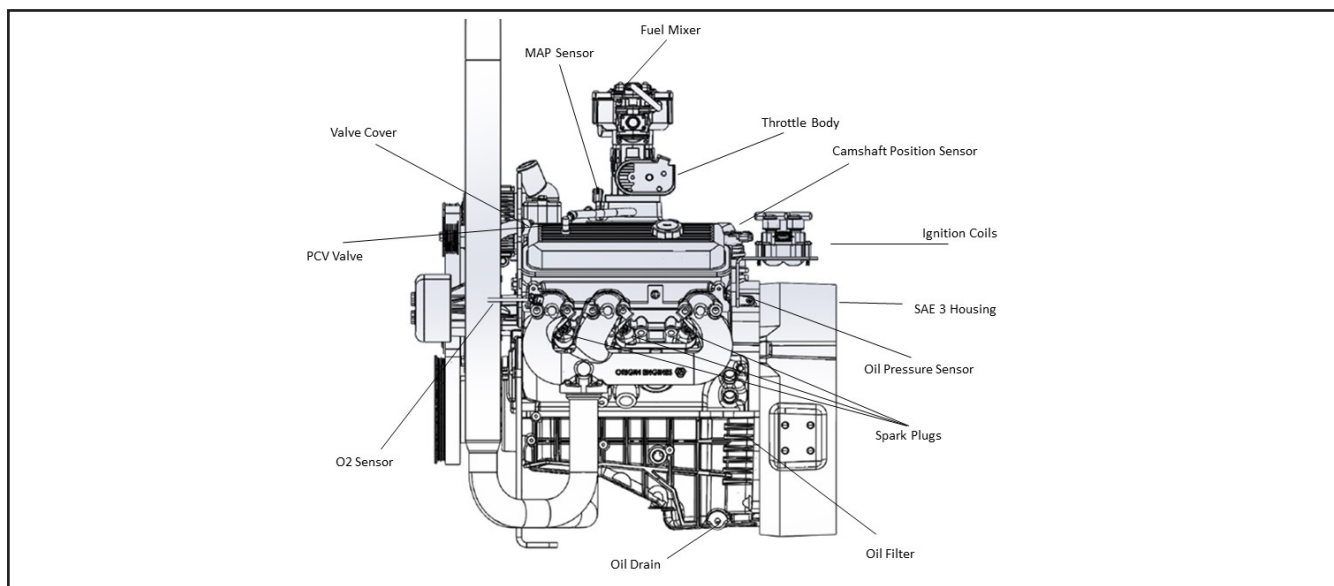

Figure 20 Oil Dipstick Location
2. Pull out the oil dipstick. See Figure 20.